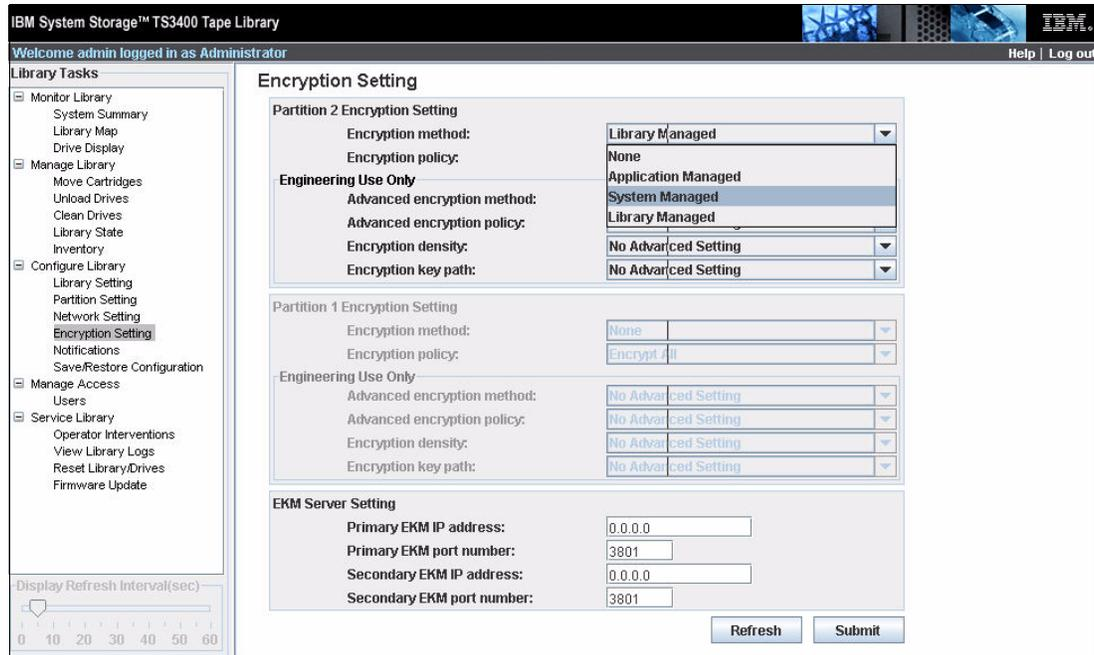
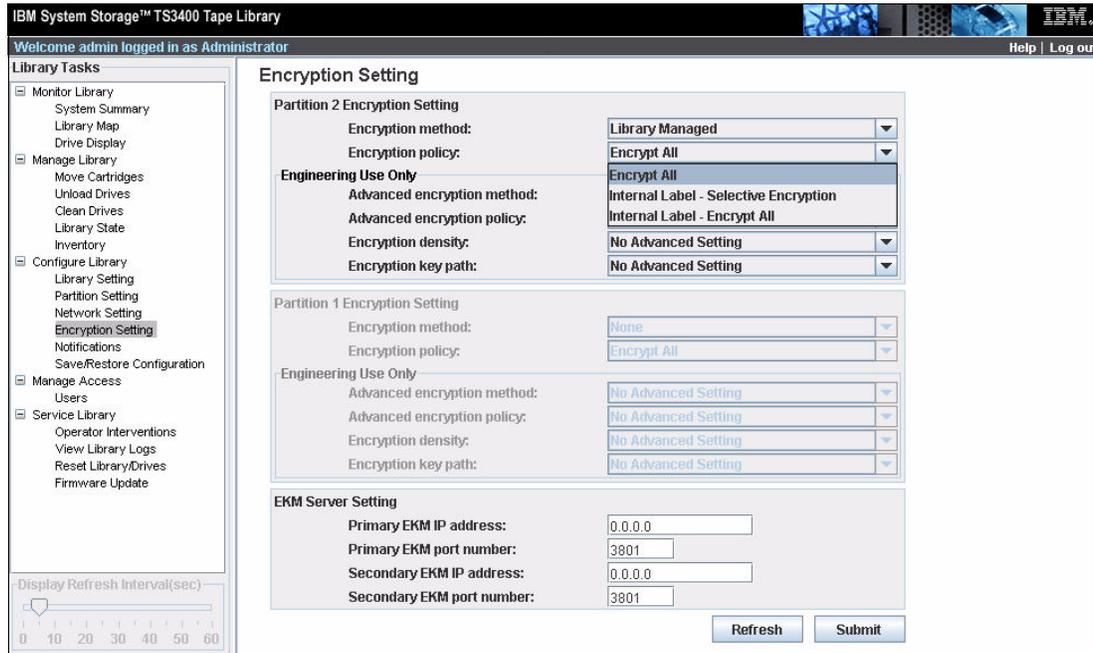

Figure 8-24 Encryption setting menu for the TS3400
Figure 8-25 Encryption policy setting on the TS3400
1. Go to the Welcome page of the TS3400 using the Web User Interface and select **Encryption Setting**, and the window shown in Figure 8-24 will be displayed.
- The next step is to configure the Encryption Policy. From the Welcome Page, select **Encryption Setting** and then **Encryption Policy**. See Figure 8-25.
As you can see in Figure 8-24 on page 221 and Figure 8-25, partition 1 is grayed out. The reason for that is that older TS1120s can be installed in the TS3400, but those tape drives do not support encryption because of an older internal chip set. However, all TS1120s ordered with the TS3400 are encryption capable.